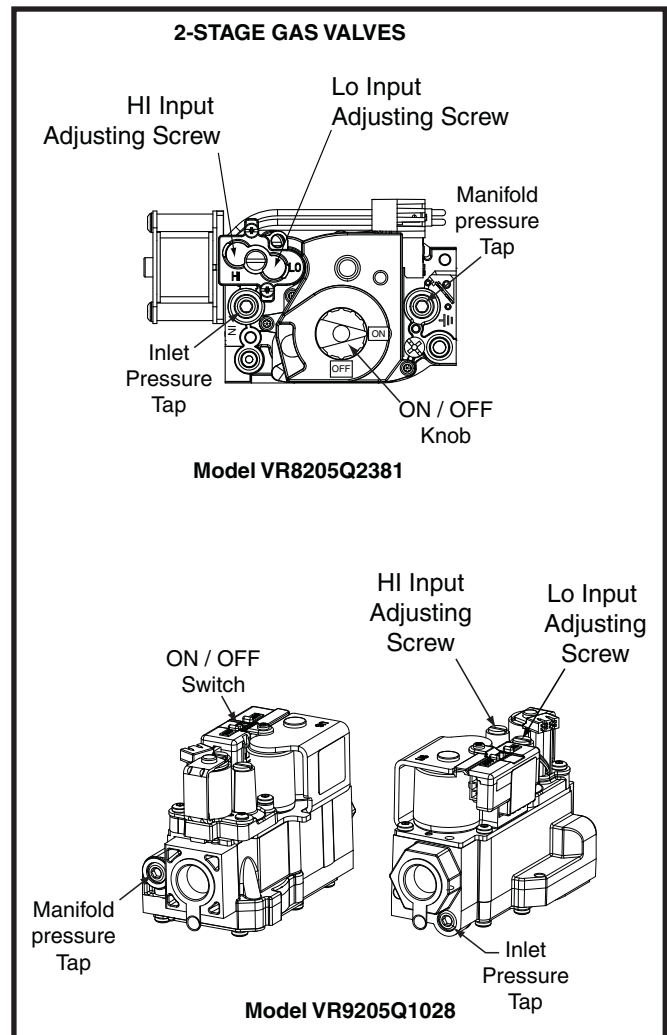

Figure 25. HI & LO Input Adjusting Screws
- c. Using an Allen wrench, turn the the LO Input Adjusting Screw on the LO side of the regulator to adjust the reduced input setting or turn the HI Input Adjusting Screw on the side of the regulator to adjust the full input setting. See Figure 25 (page 27). **NOTE:** Turning the adjusting screw clockwise increases the pressure and counterclockwise reduces the pressure.